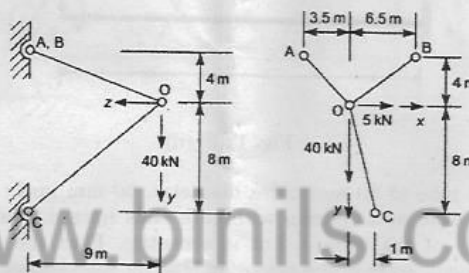

Fig. 16(a)
16. (a) Find the forces in the members of the space truss shown in Figure 16 (a). Suggested axes are also shown.